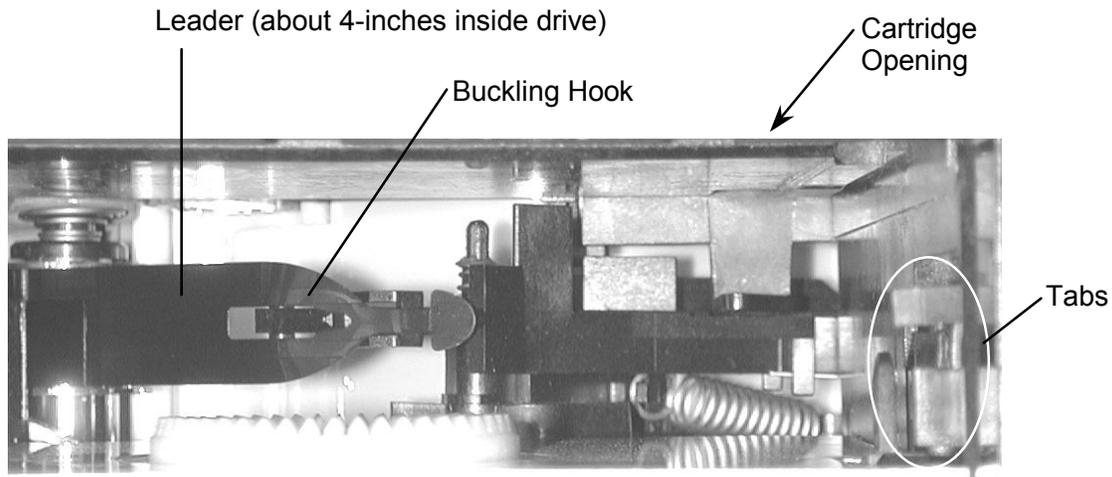
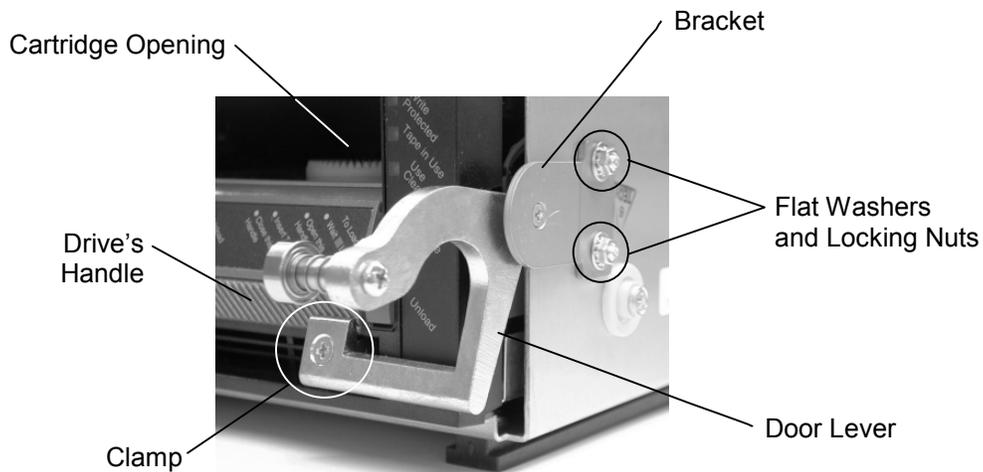

Figure 5-6 Quantum DLT Tape Drive Leader shown in its normally hooked position
Figure 5-13 Door Lever Assembly
If the tape is allowed to eject out of the tape drive all in one motion, the tape drive's leader may be damaged (Figure 5-6). If the shiny guide rod on the left side of the tape drive slot is fully visible, the leader has become detached from the buckling hook. See Section 5.11 for the Quantum DLT tape drive leader repair procedure.
1. Reach about ¼-inch into the tape drive's cartridge opening (Figure 5-13) and press the tabs on the right side (Figure 5-6), then gently lift the tape drive's handle all the way open.
3. Place the bracket over the two threaded studs on the tape drive and into the hole in the door lever. Place the flat washers and the locking nuts on the threaded studs, tighten securely to attach bracket (Figure 5-13).